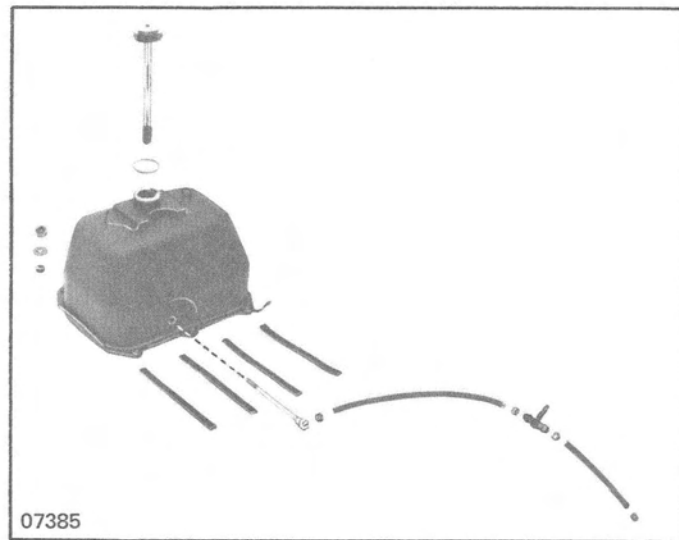

Figure 4. Fuel Hose Connections
INSTALLATION (Figure 4)
4. Connect fuel hose and fuel return hose to fuel tank. (Figure 4)